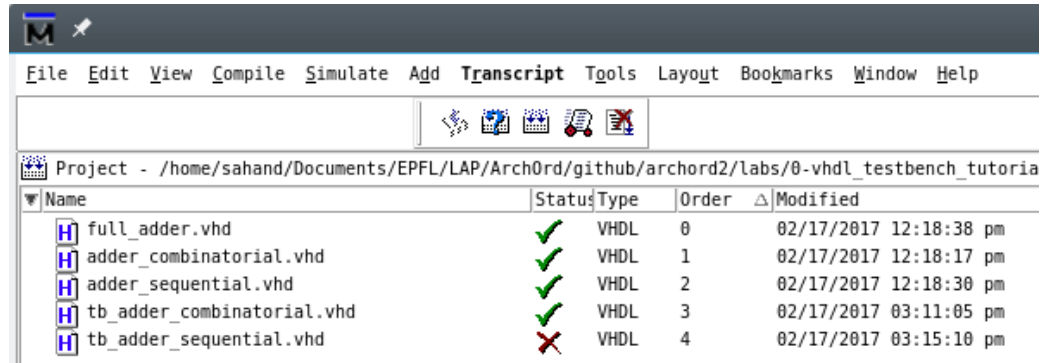

Figure 6: Compiling all testbenches
1. Click on the  icon to compile all sources. You should get something similar to Figure 6. Recall that the testbench for the sequential adder is not written yet, so it is normal it fails to compile.